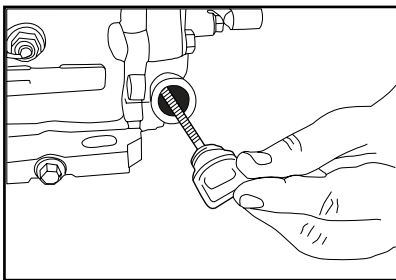

Fig 5. Engine Oil Dipstick (Removed)
2. Remove the filler dipstick from the engine oil filler hole (Figure 5) and wipe it clean.